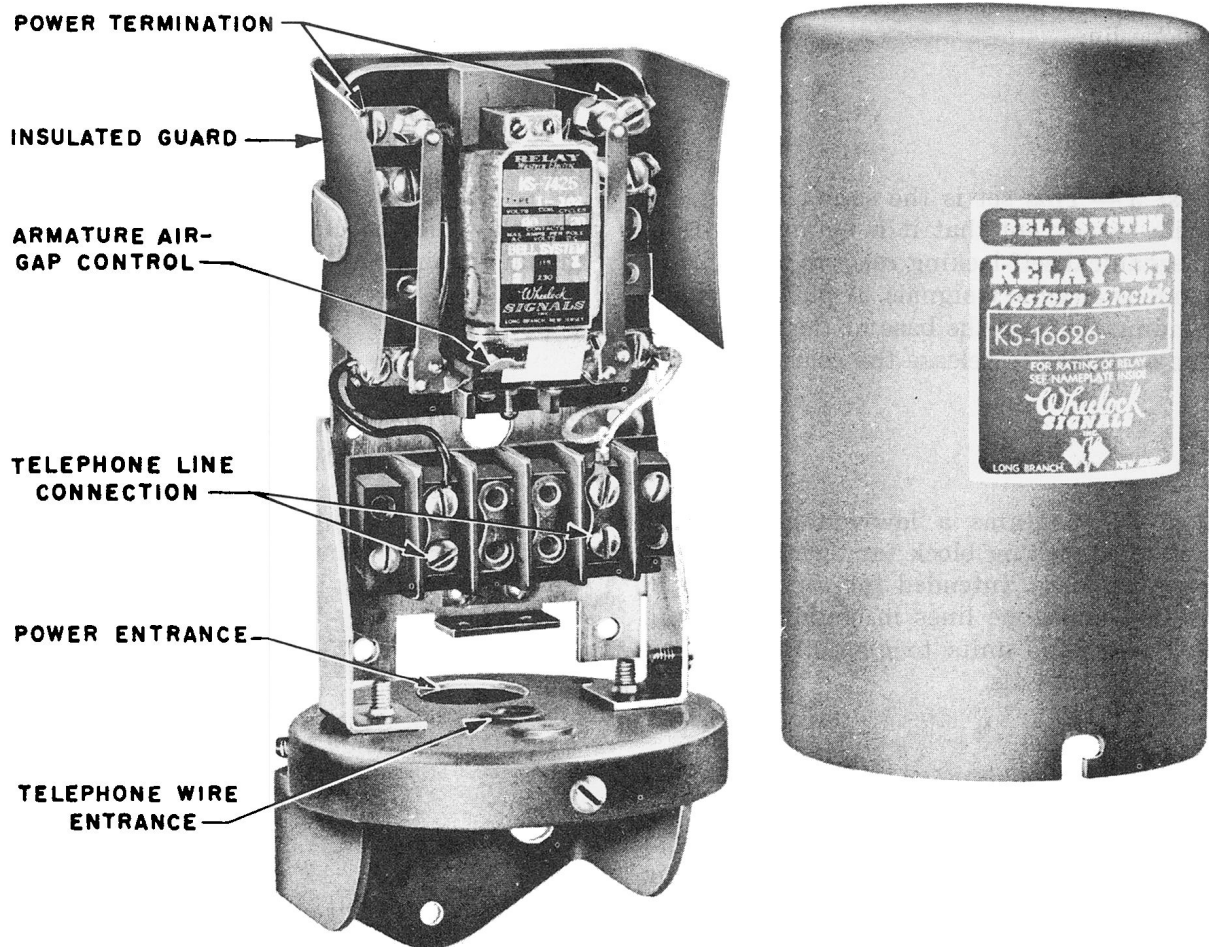

Fig. 1 — KS-16626, List 1 Relay Set, Cover Removed
2.01 The KS-16626 relay set shown in Fig. 1 is for indoor and outdoor use and consists of a relay and associated apparatus assembled in a beige-gray cylindrical aluminum housing.